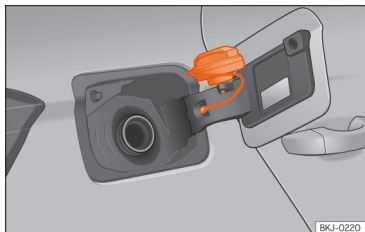

Fig. 179 Fuel tank flap with tank cap attached.
- Place it in the space on the hinge of the open flap »» Fig. 179.